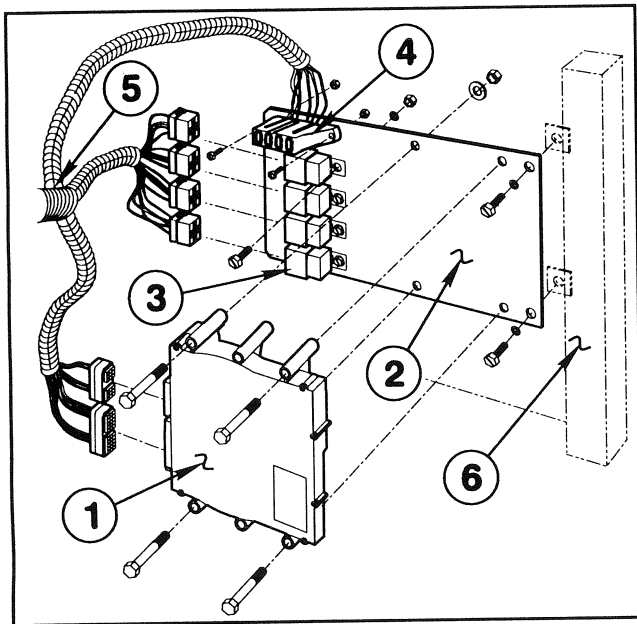

FIG. 2
1. Mount ECU to Plate using four (4) 1/4 NC x 2-1/2" hex hd cap screws, lock washers and hex nuts. See FIG. 2
2. Mount four (4) Relays to Plate using 1/4 NC x 5/8" hex hd cap screws, lock washers and hex nuts.
3. Mount Fuse Block to Plate using two (2) # 10 NC x 5/8" rec. rd. hd. mach. screws and hex nuts.
5. Mount ECU Plate to Vehicle post on right side under Dash, using two (2) 5/16 NC x 3/4" cap screws and lock washers. See FIG. 2